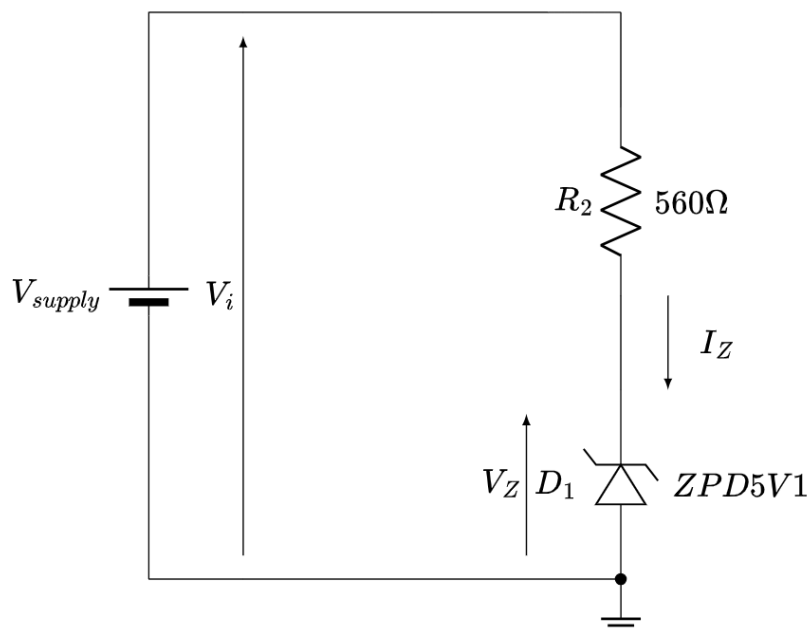

Fig. 3 – Circuit for the measurement of the Zener diode's dynamic resistance.
The circuit to build is shown in Figure 3. It is a simple Zener diode biasing network, consisting of the variable panel power supply, a resistor, and the diode. Figure 4 shows the main characteristics of the Zener diode.
2. Build the circuit as in Fig. 3.